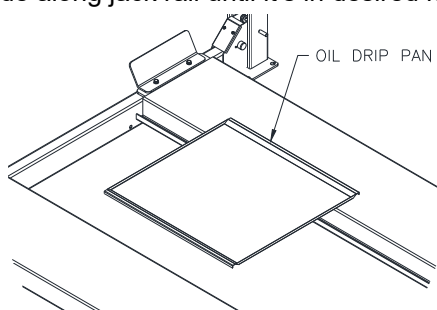

Fig 24 – Oil Drip Tray
- 1) Place drip tray between runways in the Jack rail, **Fig 24**.